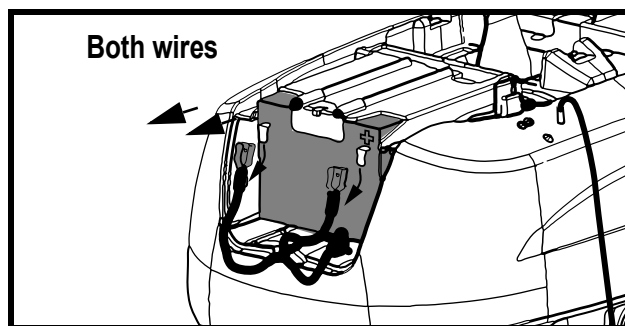

Fig. 9
- 3) Disconnect the batteries (see Fig. 9).